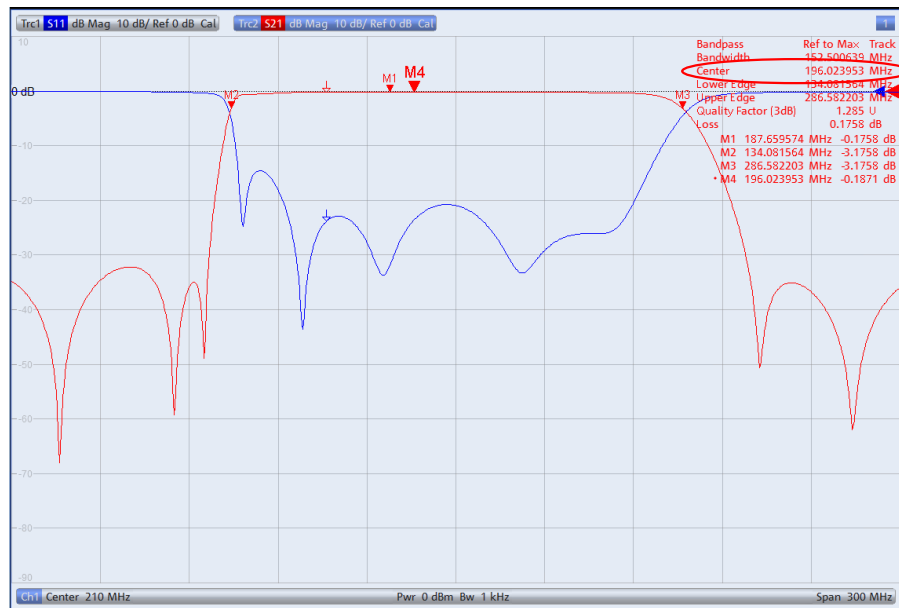

Fig. 2-32: Display of all relevant values for a bandpass.
- Bandwidth*: Enter 3 dB and then enable *Bandpass Ref to Max*. As shown in Fig. 2-32, all relevant values for the bandpass are displayed at the top right corner of the screen.
- By default, the geometric mean (marker M4)  $f_0 = \sqrt{f_H \cdot f_L}$  ( $f_L=M2$ ;  $f_H=M3$ ) is displayed for the center frequency; in this case:  $f_0= 196.023953$  MHz (Fig. 2-32). To display the arithmetic mean: